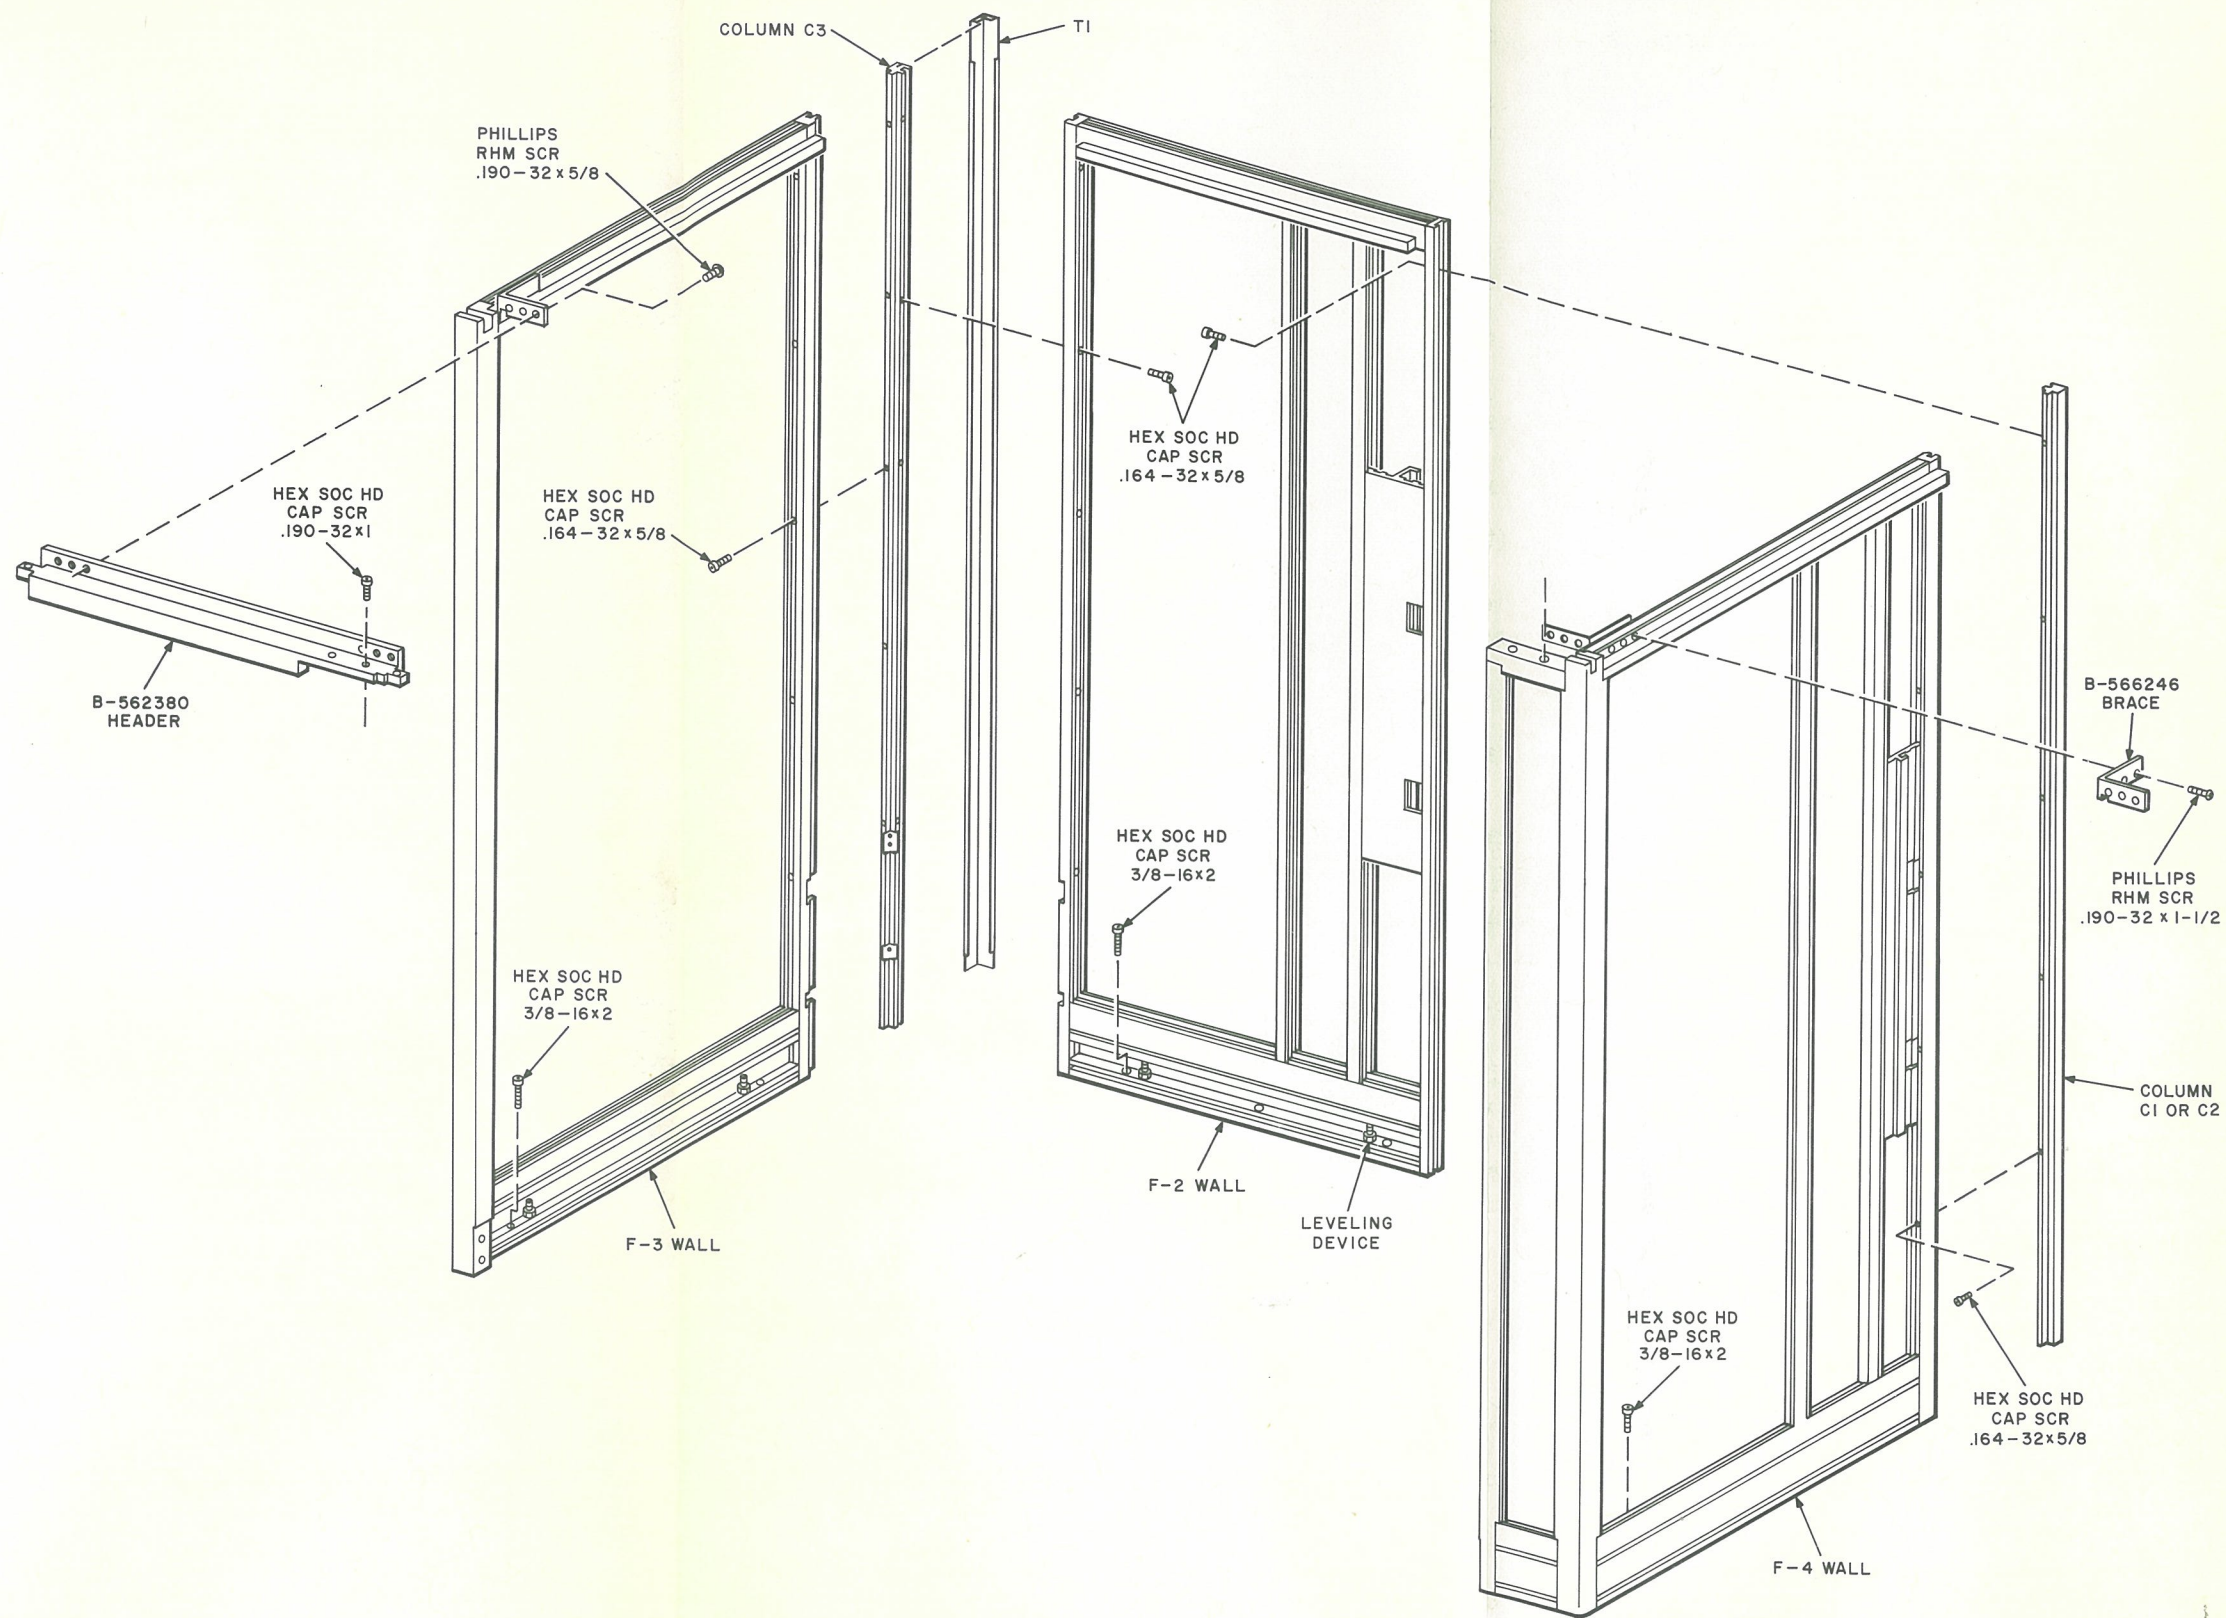

Fig. 21 — Addition of List 34 Unit
- (r) Remove T1 trim strip (Fig. 21) from left rear corner of booth.
- (y) Place F-4 wall (Fig. 21) of List 34 booth package in the position from which F-3 wall was removed.
- (al) Refer to Fig. 21 and install T1 trim strip, removed in (r).
(h) Remove six .164-32 by 5/8 hex socket head cap screws which secure C2 column (Fig. 21) to the rear wall.
(n) Place F-4 wall (Fig. 21) of List 34 booth package in the position from which F-1 wall was removed.
(s) Install B-566246 brace (Fig. 21) on each side of F-4 wall using six .190-32 by 1-1/2 unpainted Phillips round head screws.